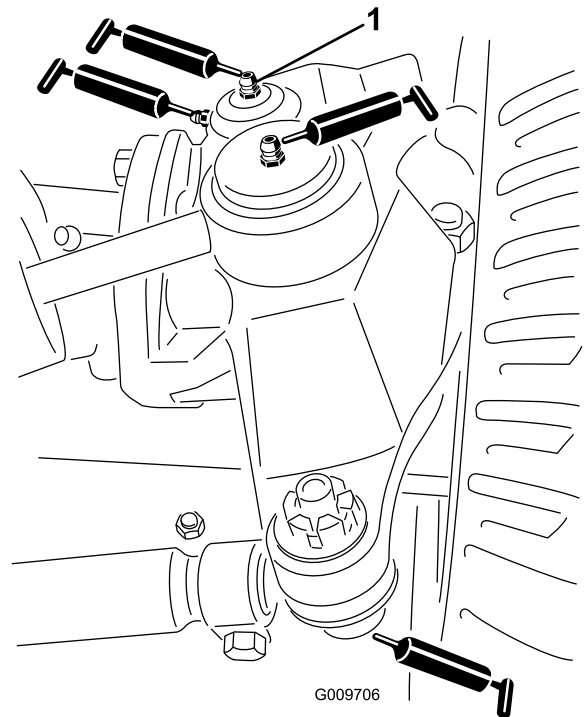

Figure 83
- Steering-cylinder ball joints (2) as shown in Figure 83
- Tie-rod ball joints (2) as shown in Figure 83
- Kingpin bushings (2) as shown in Figure 83